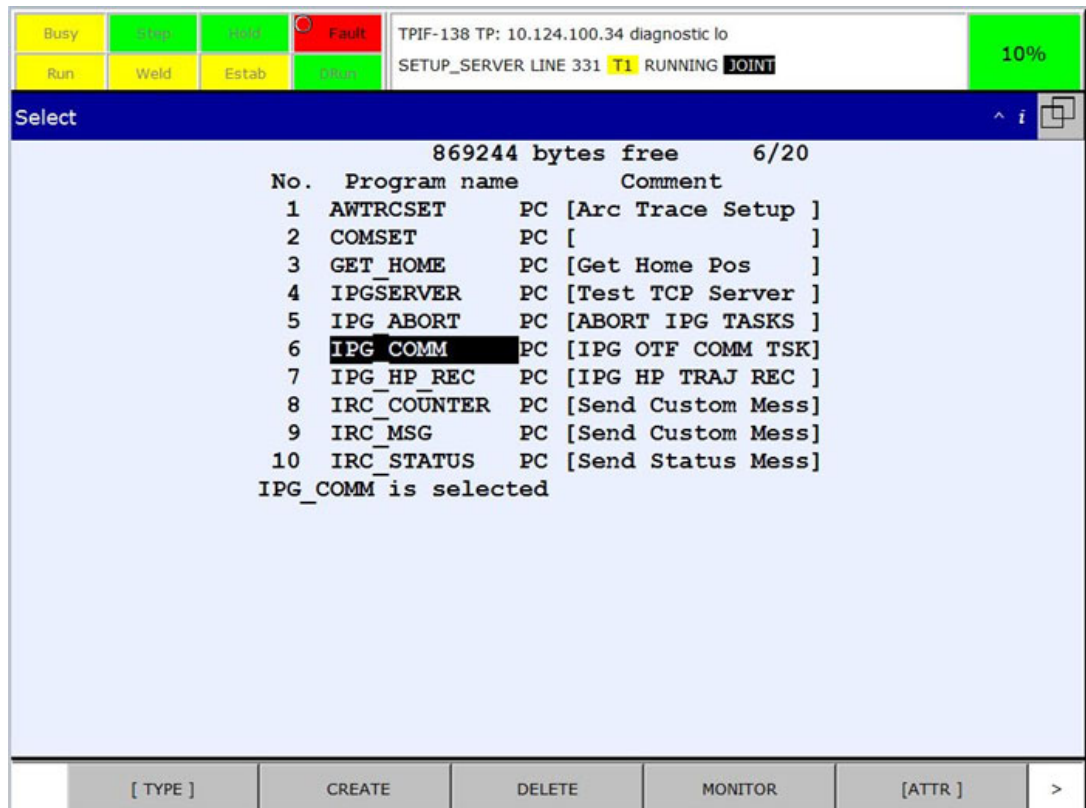

Figure 204: Selecting IPG_COMM
6. Select IPG_COMM.PC in the SELECT menu. See Figure 204 (below).